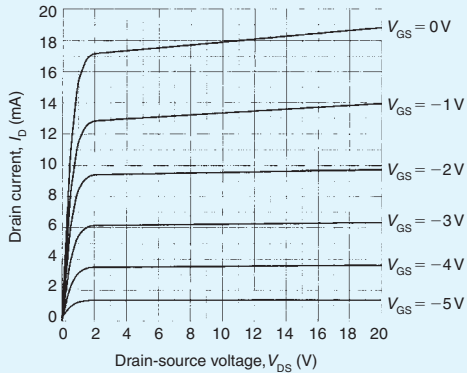

Figure 12.28
- The output characteristics of a JFET are shown in Fig. 12.28. If this device is used in an